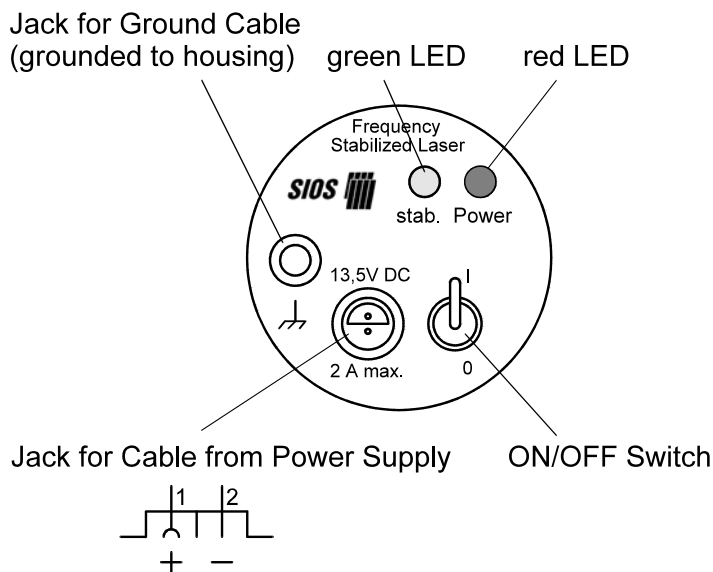

Figure 4: Indicators, connectors, and operating controls located on the rear faces of Models SL 02/1 and SL 02/2 laser heads.
All indicators, connectors, and operating controls are located on the laser head's rear face, as shown in Figure 4, below. To operate the laser, plug its power supply into a suitable electrical outlet, make certain that the ON/OFF-switch on the laser head is switched to its "O" (OFF) position, plug the connector on the free end of the cable on the power supply into the mating connector on the laser head, and switch the ON/OFF-switch on the laser head to its "I" (ON) position. Always switch the laser off before connecting/disconnecting the cable on the power supply to/from the laser head.